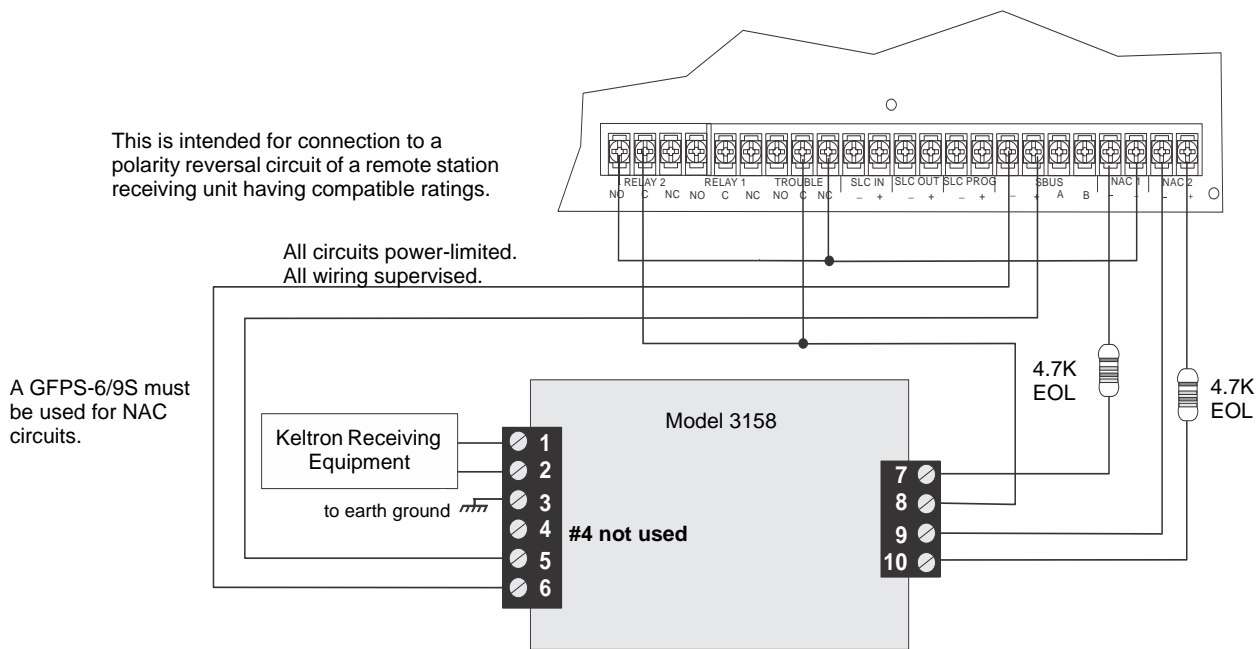

Figure 4.26 Keltron 3158 Connection to Control Panel
1. Wire the 3158 to the control panel as shown in the connection list and Figure 4.26.